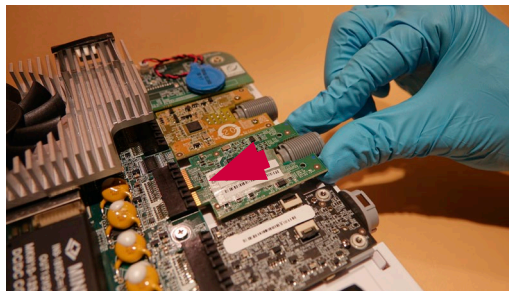

Figure 18 Insert a new VDI board
c) Insert the new VDI board into the main board connector (Figure 18)